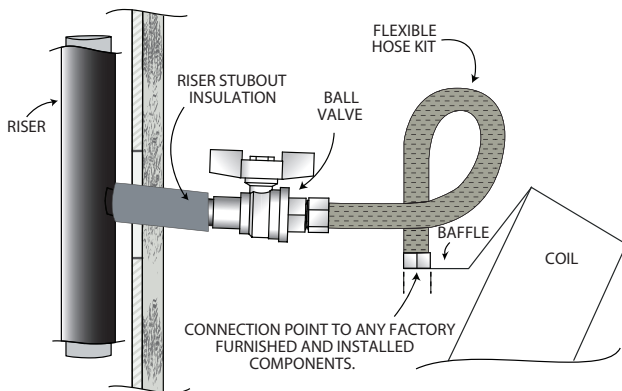

Fig. 21 — 42SU Unit Riser to Unit Installation
4. All universal stack units use reinforced braided stainless steel flexible hose kits for piping between field-installed risers and unit water coils as shown in Fig. 21. The hose kit design has threaded connections on each end. The hose kits allow for riser fluctuations due to thermal expansion.